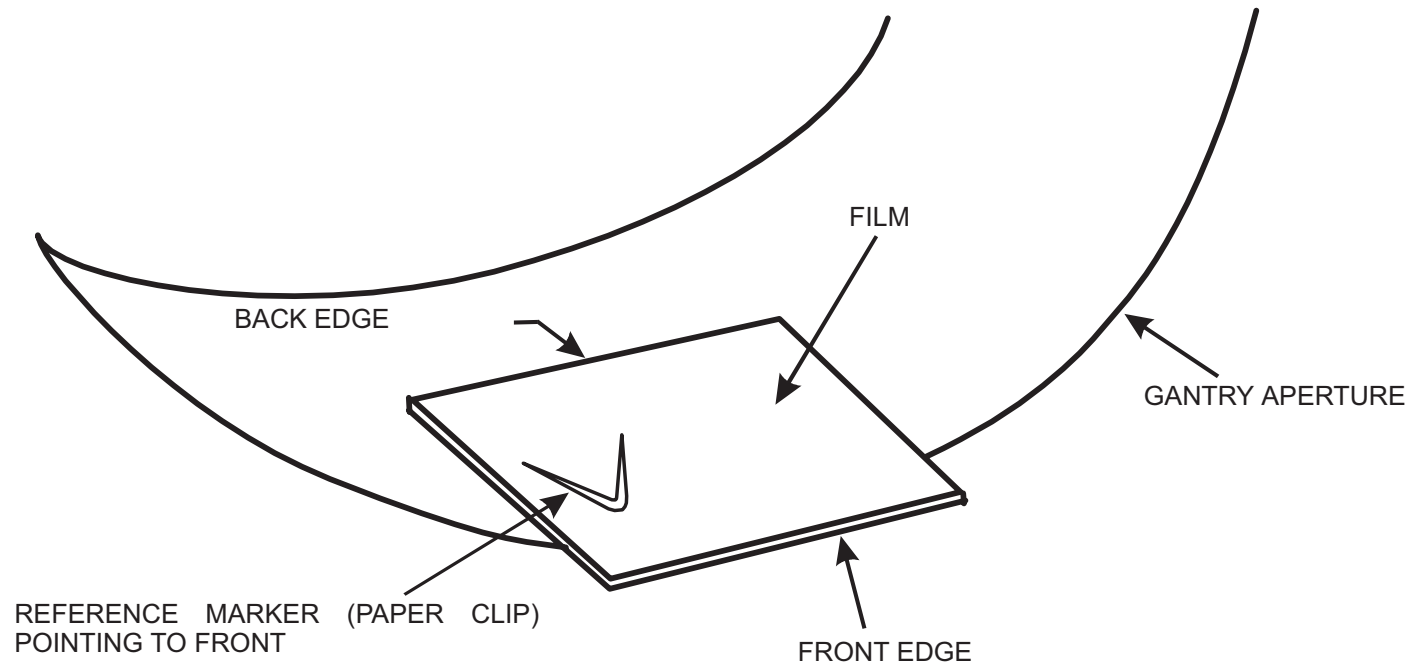

FIGURE 68 FILM AND REFERENCE MARKER
5. Tighten the four (4) cradle mounting bolts, in a cross pattern, to 15 ft-lbs.
9. Place a 4x5-inch film on the bottom of the inside of the Gantry aperture. Configure a reference marker in the orientation shown in Figure 68, centered in the x-ray field.